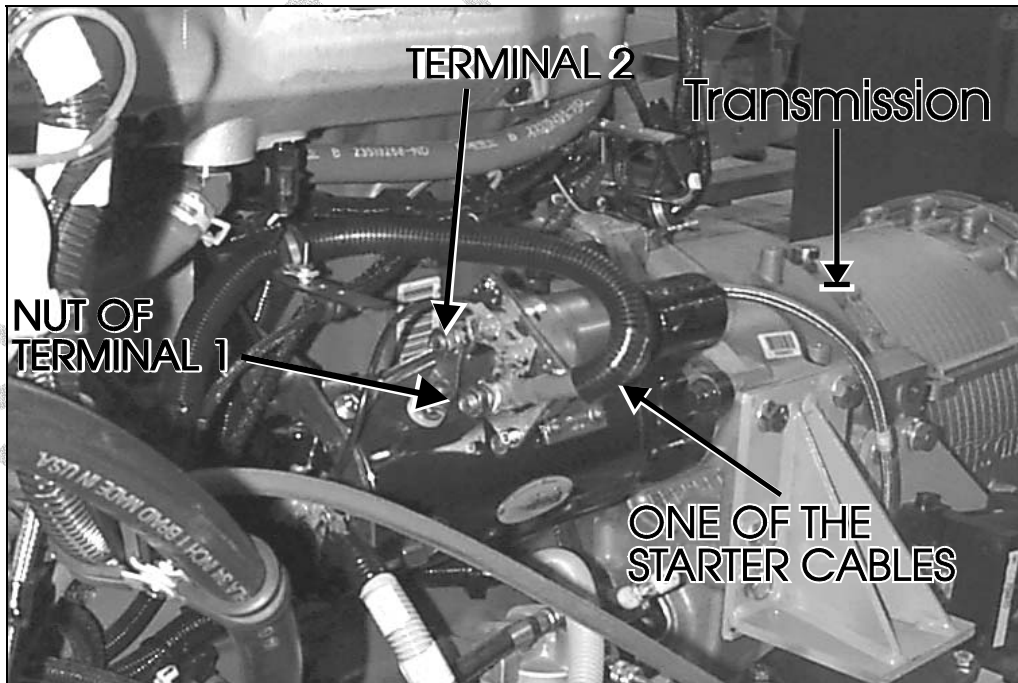

FIGURE 1: STARTER AND TRANSMISSION VUE
First of all, it is very important to inspect starter cables. Figure 1 shows the proper position of the alternator cable. If your cable position is the same as it is shown on figure 1, this bulletin is finished. If your cable position is different, look at the table listed below. This table shows all the possible observations of starter cables and the corresponding part to performed.
1. Locate 50MT starter in R.H. side engine compartment (Fig. 1).
2. Unscrew starter nut on terminal 1(positive) and remove alternator and battery cables (Fig. 1).
4. Place correctly alternator cable on terminal 1(positive) as shown on figure 1. The cables must form a loop to avoid contact with terminal 2 (negative) of starter's solenoid.
Warning: Figure 1 shows proper position of the alternator cable to terminal 1. Another cable is attached to terminal 1 (positive)(not shown on figure 1). This is the battery cable. These cables must not touch terminal 2 (negative).
6. Place correctly alternator cable on positive terminal (terminal 1) as shown on figure 1. The cables must form a loop to avoid contact with negative terminal (terminal 2).
7. Place correctly battery cable on positive terminal (1).
Warning: Figure 1 shows the proper position of the alternator cable to terminal 1. Another cable is attached to terminal 1 (positive) (not shown on figure 1). This is the battery cable. These cables must not touch terminal 2 (negative).